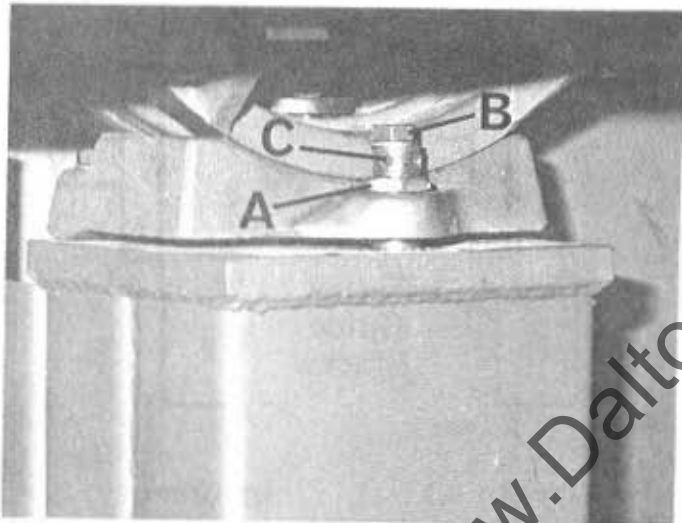

FIG 19
1. Loosen M20 locknut "A", FIG.19, and M10 bolt "B".